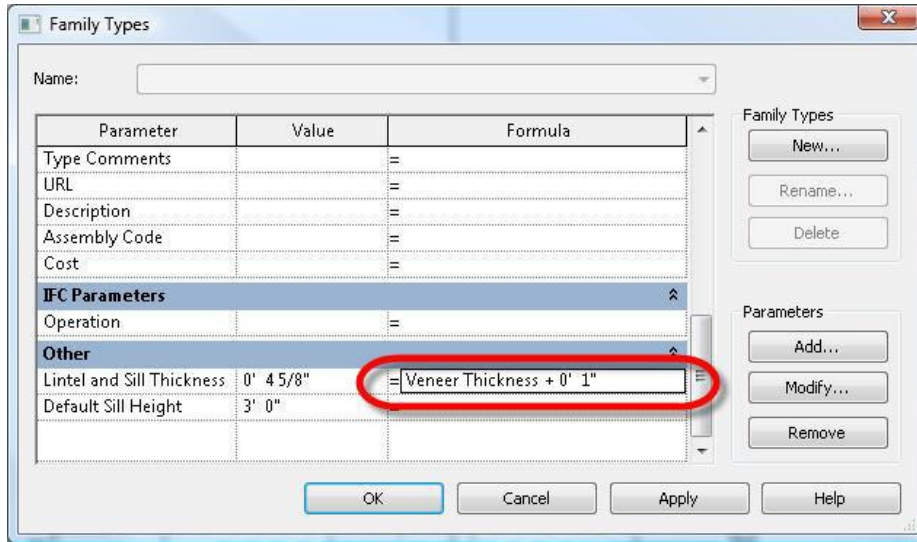

Figure 25. Creating a formula parameter.
32. Click OK to exit the Parameter Properties dialog and return to the Types dialog. Scroll down to the “Lintel and Sill Thickness” parameter, and in the Formula column to the right enter “Veneer Thickness + 1” so that your dialog looks like Figure 25. When you press <ENTER> the value for the parameter will turn grey and be changed to 0’-4 5/8”. Click OK to return to the Family Editor.